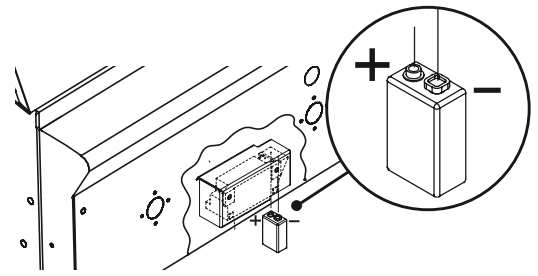

FIG. 24
- ① Remove drip pan.
- ② Open cart door (on cart model only).
- ③ Pull battery downwards (this may require use of pliers).
- ④ Re-install upward and push to snap (polarity shown in Fig. 24).